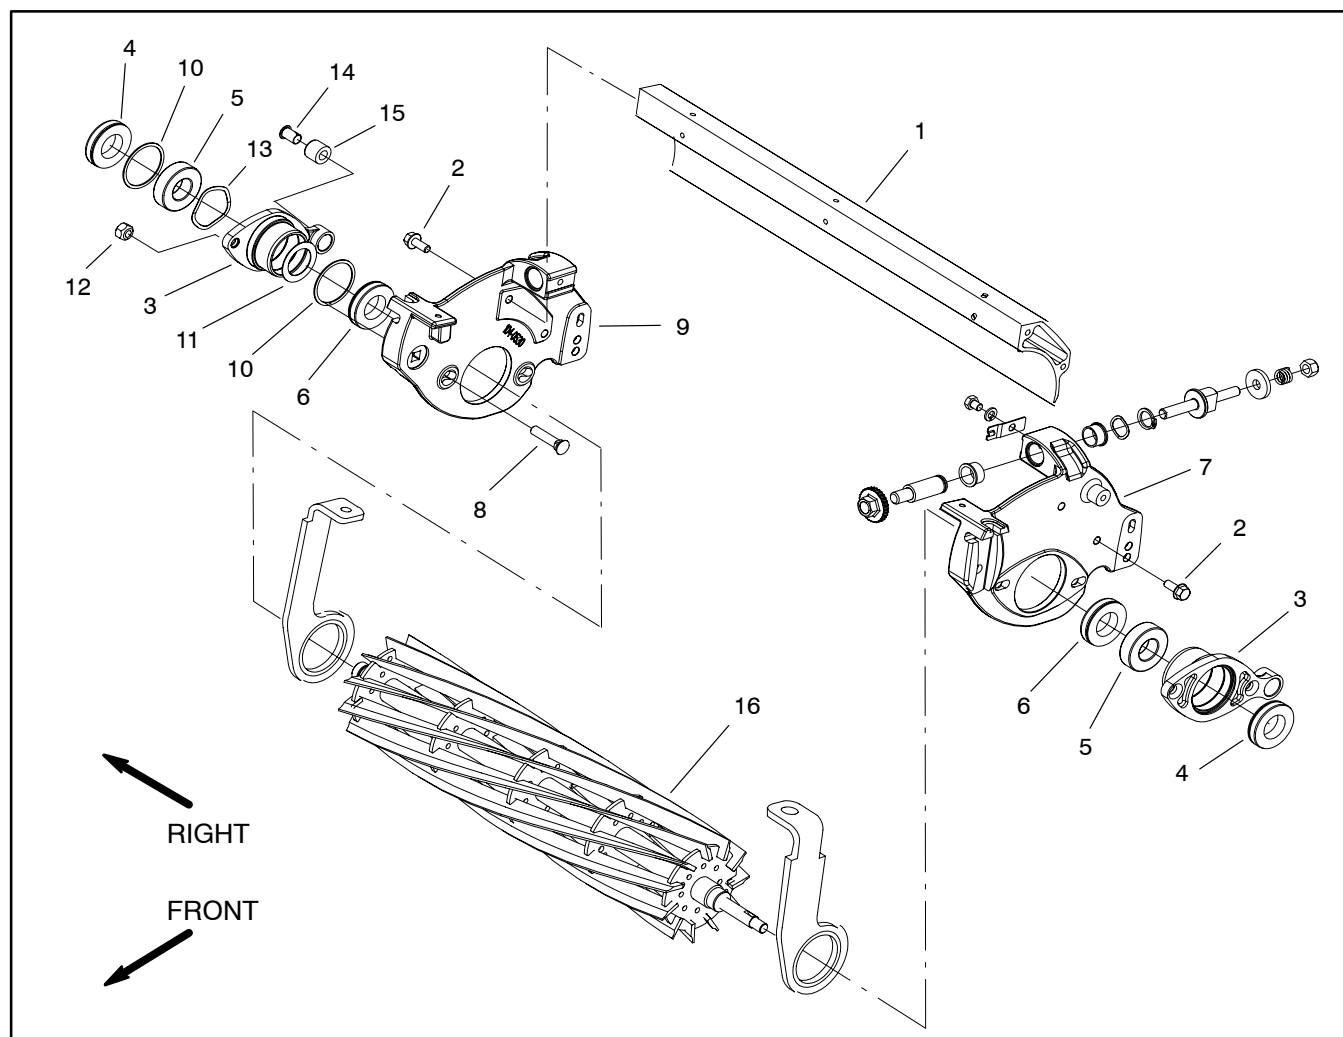

Figure 44
**NOTE:** Cutting units with serial numbers below 240001001 were produced with the cannister style reel seal package shown in Figure 44.
**Disassembly (Fig. 44)**
**Assembly (Fig. 44)**